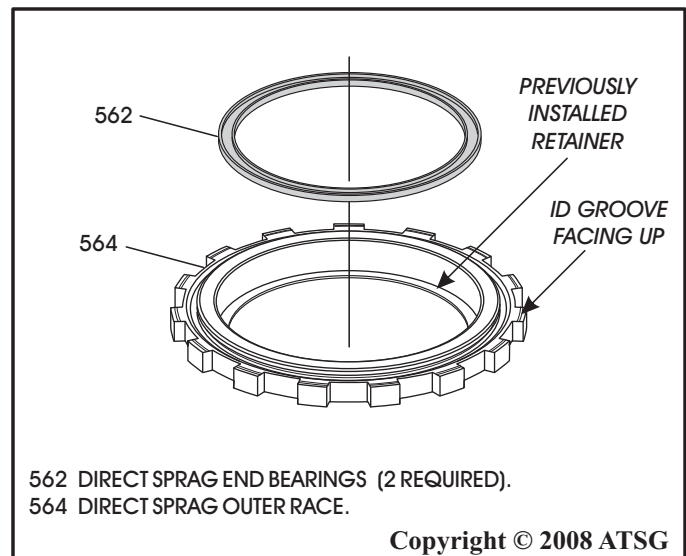

Figure 149
5. Install one direct sprag end bearing, as shown in Figure 149, into the direct sprag outer race.